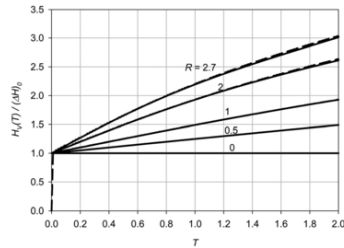

Fig. 8 Comparison between analytical (solid line) and numerical (dashed line) head at the valve after its sudden closure
Figure 8 compares the head at the closed valve from Eq. (25) with the results from numerical simulations between 0 and $2La$ s. It is seen that Eq. (25) yields a close approximation to the head rise at the closed valve.
It should be noted, because no assumption was made on how U vary along the C^+ characteristics, a valid numerical simulation can produce more accurate results than Eq. (25) can. Thus, Eq. (25) is not an alternative to a valid numerical simulation. However, Fig. 8 demonstrates that Eq. (25) is an option to quickly and directly compute the head rise at the valve with acceptable accuracy.